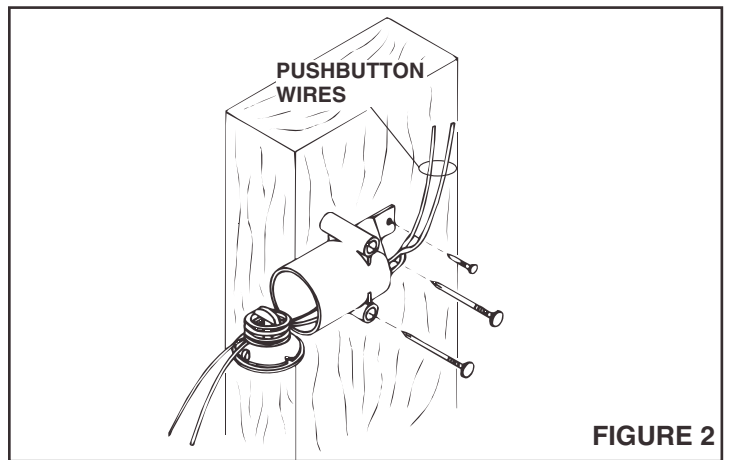

FIGURE 2
2. Refer to Figure 2. Determine finished wall thickness and mount wiring sleeve to stud by lining up proper indicator mark with front edge of stud.